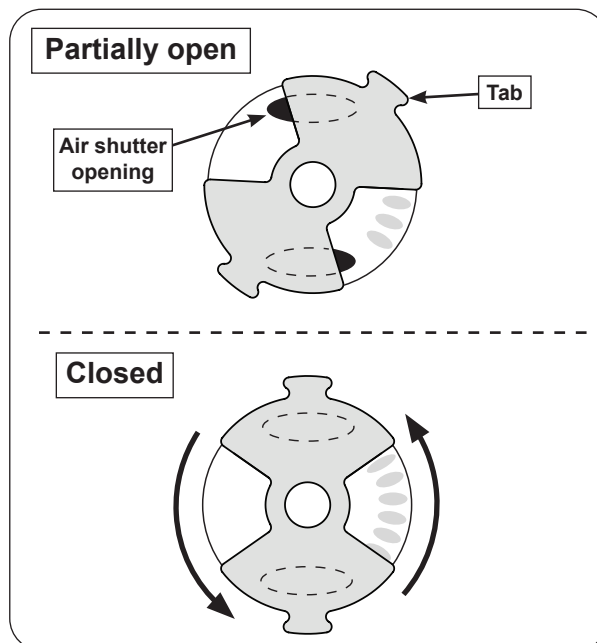

Fig. 38-2 Main burner air shutter adjustment
Main burner air shutter are easily accessed by carefully sliding the unit forward in the enclosure. The air shutters are located at the end of the burners on the right side of the unit. Each air shutter has a small dimple that allows it to lock into notches in the burner face. This prevents the air shutter from moving. See Fig. 38-2.
3. Begin closing the air shutter **with the tip of a screwdriver** until the flames appear to burn while touching the burner ports (Fig. 38-2).